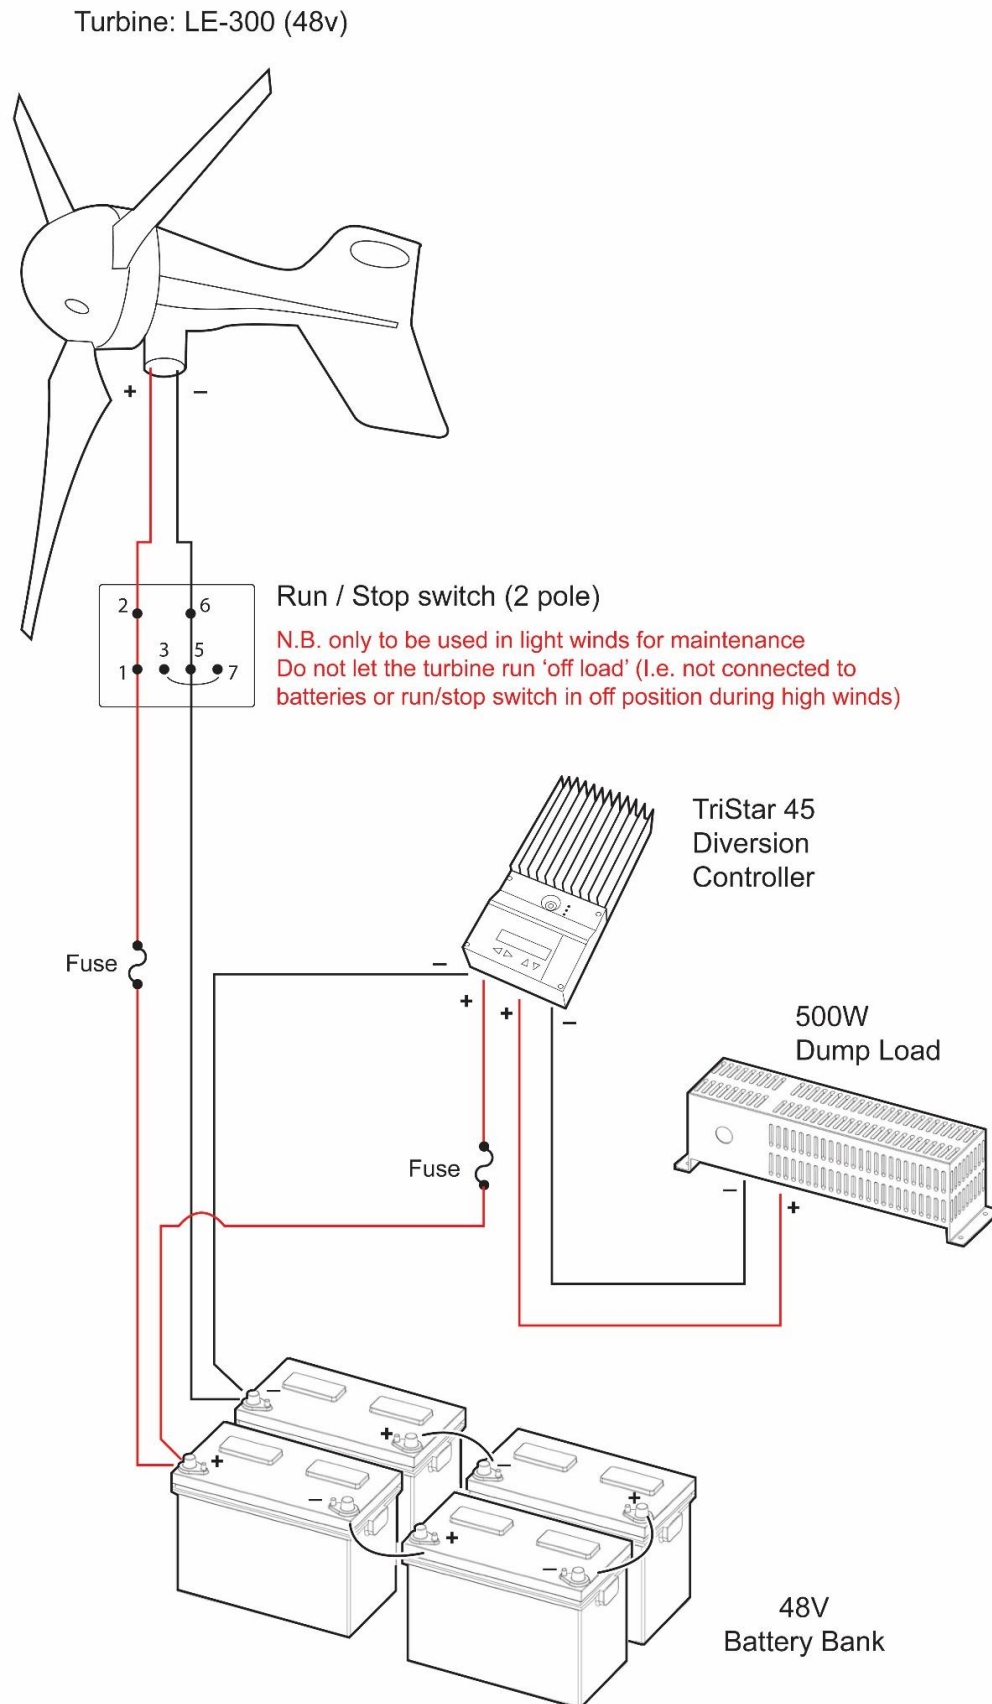

Fig 14: Typical 12/24V Hybrid system with LE-300 and DL-300 charge controller, schematic connection diagram
- **Installation on Yachts with shore power & engine alternator power sources**- When installed on a sailboat, the *LE-300* may be required to work alongside shore power systems and engine alternators. In these cases, it is important to ensure that the DL-300 diversion charge controller (or similar) does not unintentionally 'dump' power from the shore power or engine alternator. This can be prevented by ensuring that the regulation set points on the shore power system and engine alternator are set below the regulation points of the DL-300 (or similar charge controller). This means that power from the shore power system and / or engine alternator will never be unintentionally 'dumped' through the dump load. If it is not possible to set the regulation points of the shore power / engine alternator below that of the DL-300 or similar charge controller, then the system should be wired in accordance with Fig 14 on Page 17 and the stop switch should be activated when the engine alternator or shore power system are in use. This will disconnect the diversion charge controller during use of shore power / engine alternator and will prevent unintentional dumping of power from these sources.